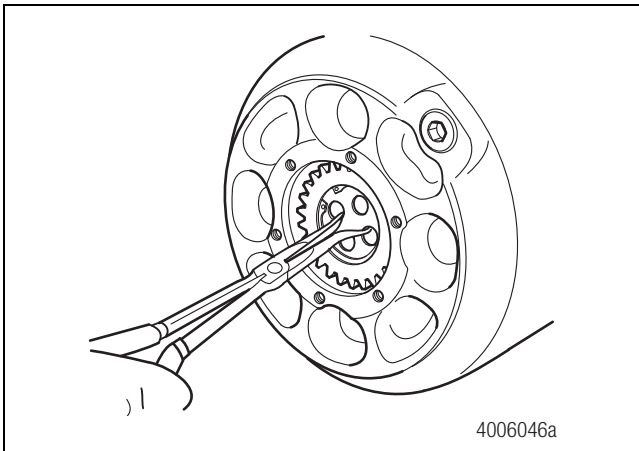

Figure 3.3
9. Use pliers to secure and remove the sun gear assembly from the hub housing. Figure 3.3.